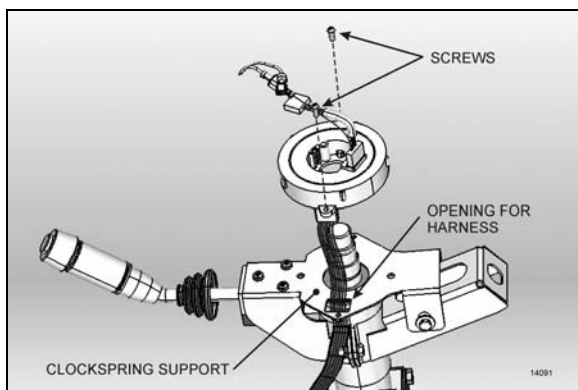

FIGURE 14: CLOCKSPRING INSTALLATION
2. Remove the 2 clockspring mounting screws and then remove the clockspring. You will have to disconnect the clockspring harness connector located lower along the steering wheel column (Figure 14). If necessary, remove the steering column covers.
3. Route the new clockspring harness through the opening in the clockspring support (Figure 14). Plug the connector at the base of the steering wheel column and fix harness along the steering wheel column.